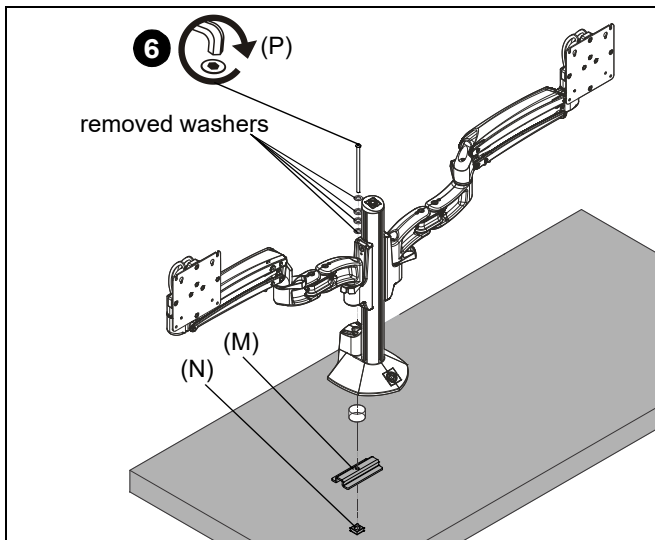

Figure 6
5. Place mount on desk over grommet hole. (See Figure 6)
6. Use 5/16-18 x 6" button head cap screw (P), removed washers, clamp bracket (M) and 5/16-18" square nut (N) to secure mount to desk. (See Figure 6)